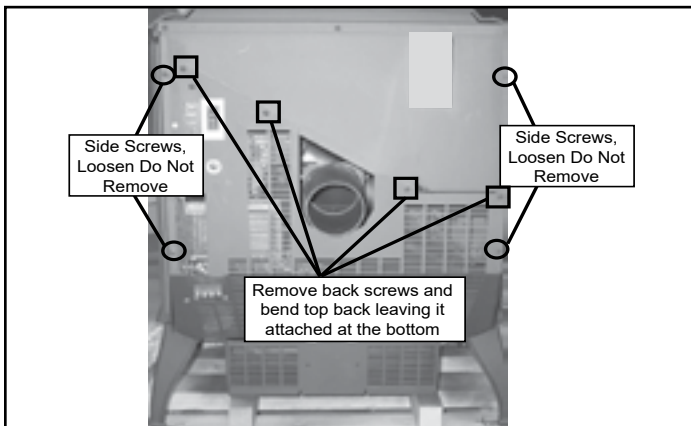

Figure 22.1
- Remove 4 screws from the back screen and pivot the top of the screen toward you leaving the bottom attached to appliance (**Figure 22.1**).